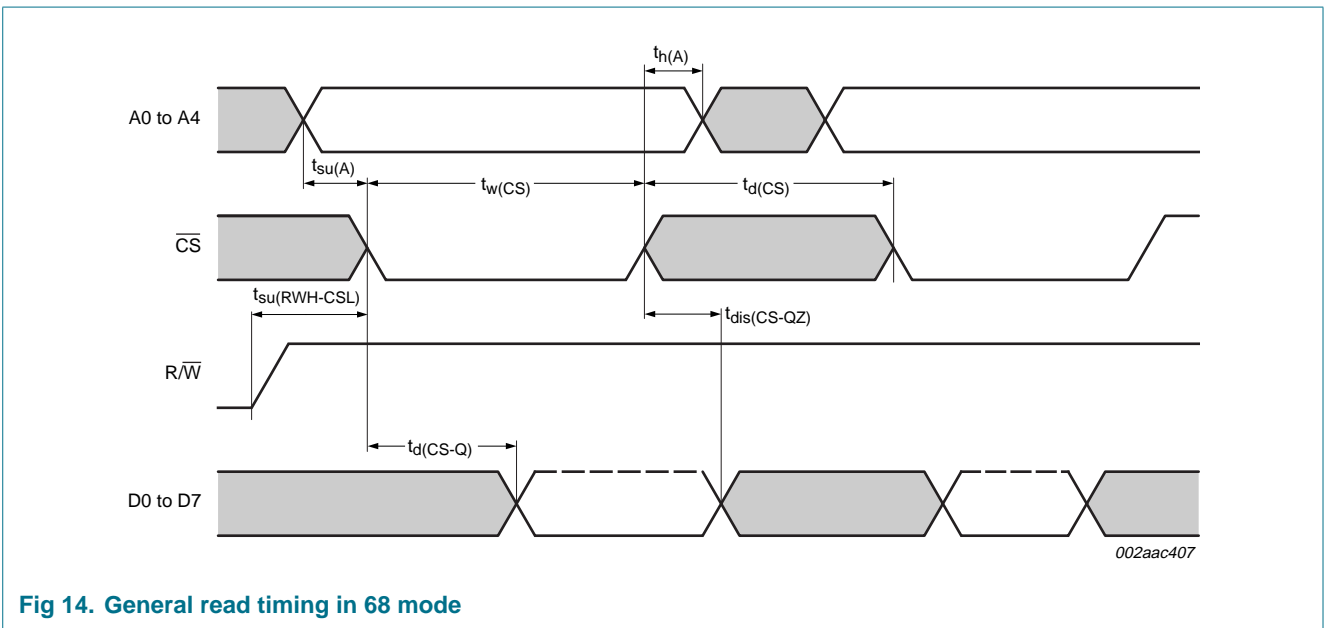

Fig 14. General read timing in 68 mode
- (2) \overline{CS} timing during a read cycle. See Figure 14.